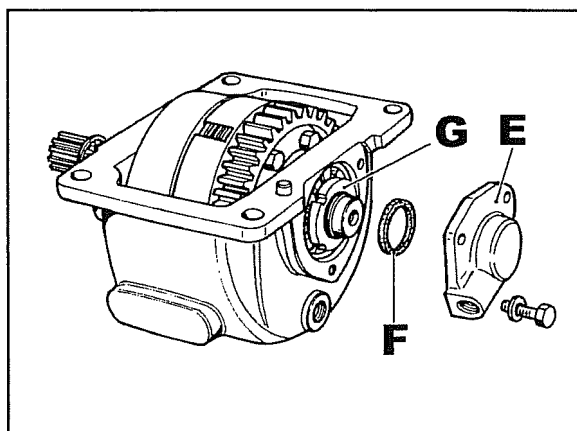

Fig. 3
- 5 Remove the cover **E** fig. 3 and then remove the quadring seal ring **F**.
- 6 Remove locking ring **G** fig. 3.